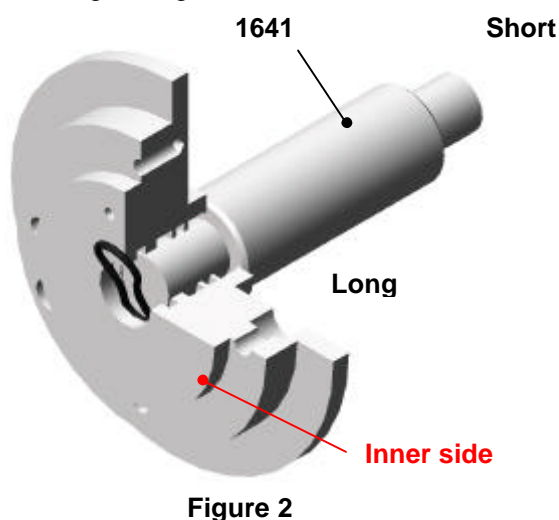

Figure 2
- O.rings can be installed with the O.ring positioning tool P/N 1641. To install the ring on the inner side of the plate (Figure 2), insert the longer side of the tool in the plates (P/N 2709 and 2728, Marks B and C), as shown in the drawing. Then place the ring against the O.ring positioning tool (P/N 1641) and insert it in the groove.